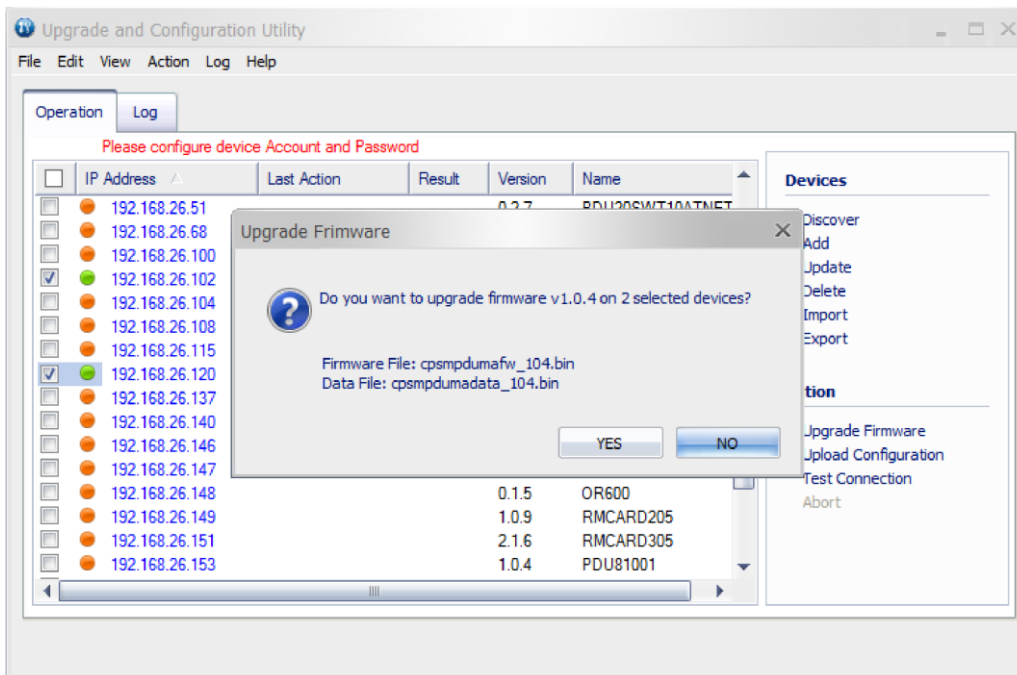

Figure 5.
8. Click OK in the Upgrade Firmware confirmation window (Shown in Figure 5).